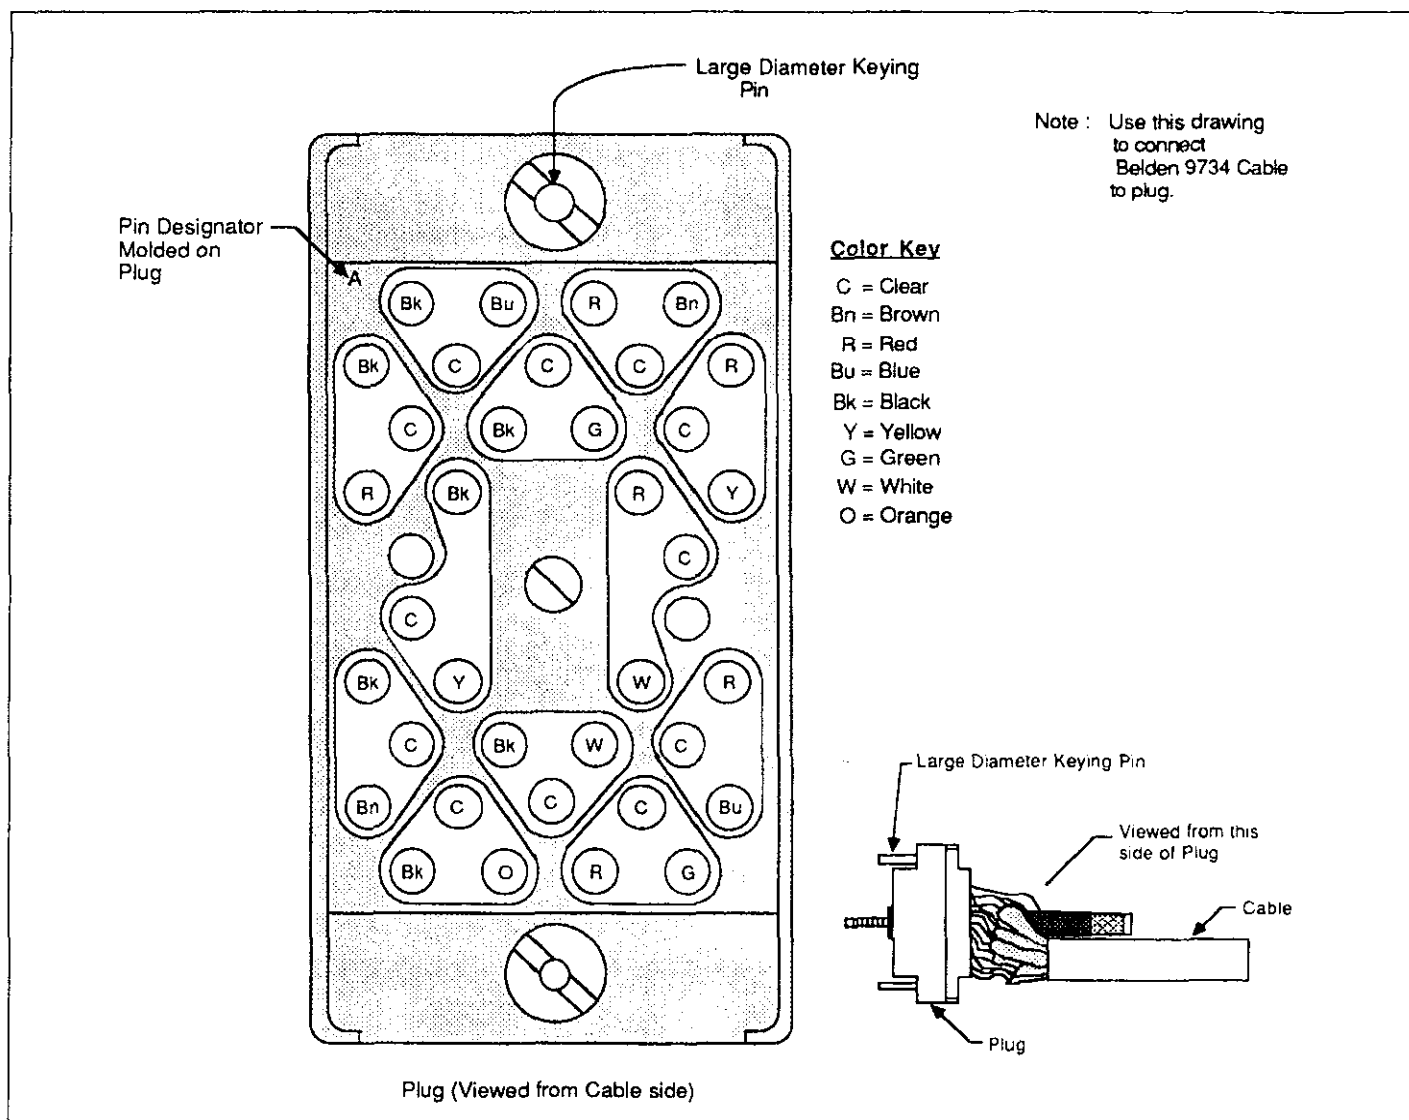
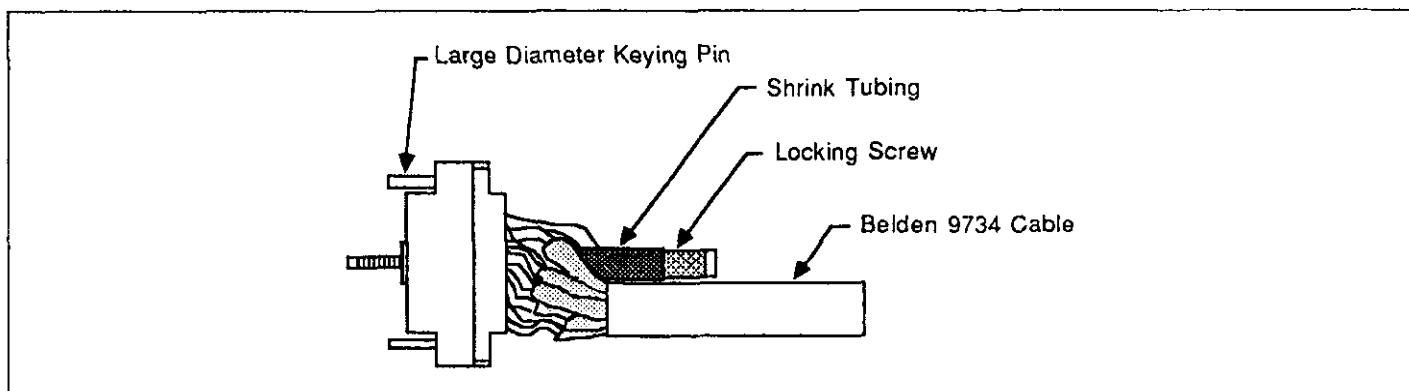

Figure 2-14. Connecting Belden 9734 Cable to Plug
Figure 2-15. Cable Positions
The following procedure shows how to properly connect a 36 conductor cable to a "rack and panel" plug. The cable used in the procedure is the same one used in the Model 7078-MTC and is available from Belden (P/N 9734). Modify the procedure accordingly if using a different cable or individual wires and use Figure 2-23 instead of Figure 2-14.
Figure 2-14 shows where the wires of each bundle belong. The wires in each bundle have a unique color combination that is different from the color combination of any other bundle.
7. Insulate the locking screws of the plug with shrink tubing as shown in Figure 2-15.
8. Orient the cable to the plug as shown in Figure 2-15, and using Figure 2-14 as a guide, insert the wire crimp tails into the plug. Use the Model 7078 CIT insertion tool to push each wire crimp tail completely into the plug.